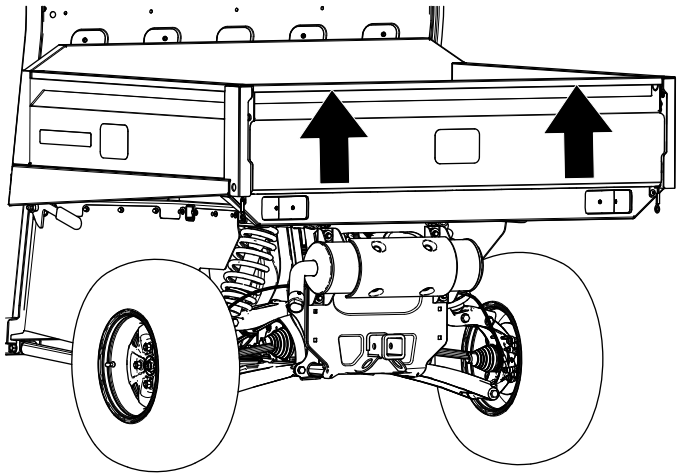

Figure 81
2. Using both hands, raise the tailgate using the ridge near the top of the tailgate (Figure 81).